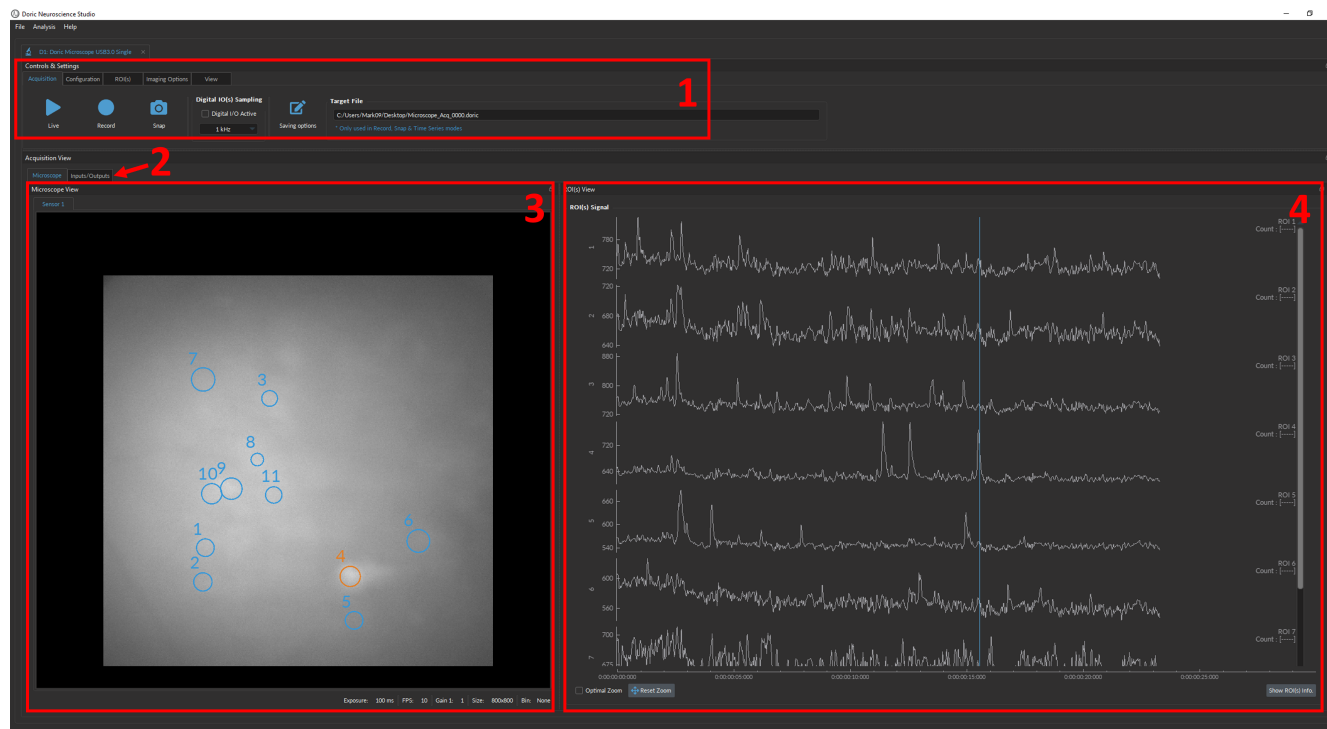

Figure 7.6: *Doric Neuroscience Studio* user interface
The **Microscope Driver** interface (Fig. 7.6) of *Doric Neuroscience Studio* software is split into two sections: **(1) Controls and Settings tabs** (Section 7.3) are used to manage different elements of the software (Acquisition, Configuration, and View); and **(2) the Acquisition view** (Section 7.5) allows simultaneous visualization of both the **Microscope View** (Section 7.5.2) and the **ROIs View** (Section 7.5.3).